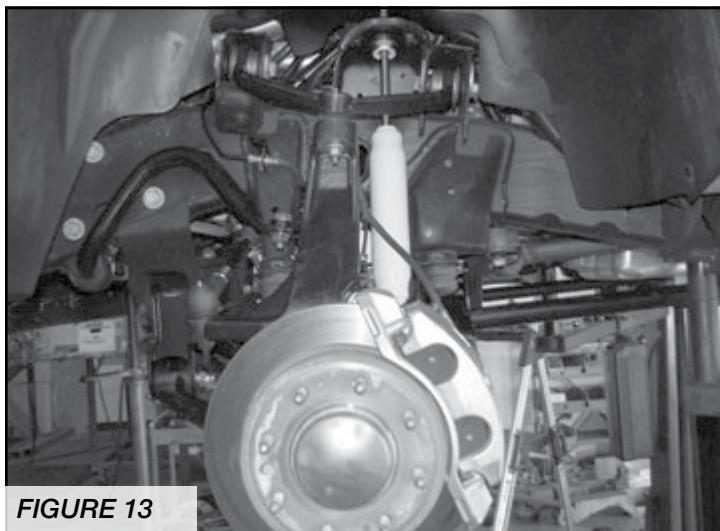

FIGURE 13
21. Install the rotor and the small bolt retaining the rotor and torque to 12 ft-lbs. Install the caliper and torque to 220 ft-lbs. **SEE FIGURE 13**